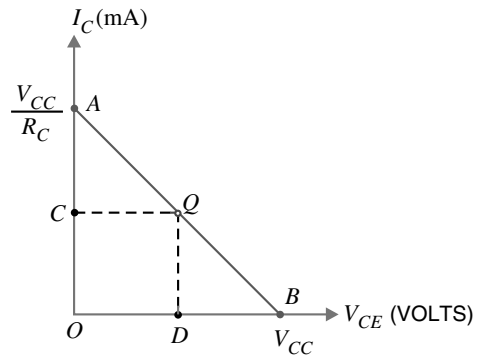

Fig. 6.38
**Importance of d.c. load line.** The current ( $I_C$ ) and voltage ( $V_{CE}$ ) conditions in the transistor circuit are represented by some point on the output characteristics. The same information can be obtained from the load line. Thus when  $I_C$  is maximum ( $= V_{CC}/R_C$ ), then  $V_{CE} = 0$  as shown in Fig. 6.38. If  $I_C = 0$ , then  $V_{CE}$  is maximum and is equal to  $V_{CC}$ . For any other value of collector current say  $OC$ , the collector-emitter voltage  $V_{CE} = OD$ . It follows, therefore, that load line gives a far more convenient and direct solution to the problem.